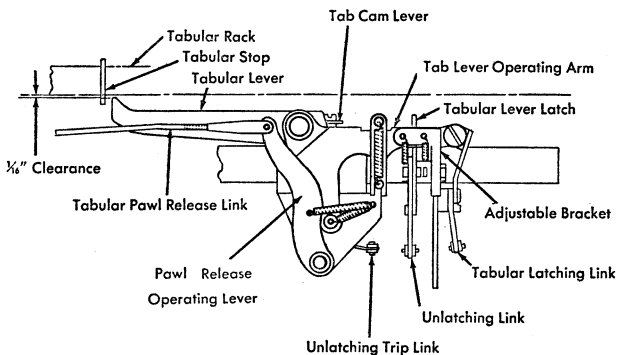

Figure 9. Tab Mechanism
When the tab cam is operated, its motion is transmitted by the tab operating link to a bell crank mounted on the escapement trip-bell-crank-and-bracket assembly. This bell crank actuates the tab-lever operating arm which, through two short springs mounted on the left end of the tab lever, raises the tab lever into the path of the tab stops (Figure 9). The tab-lever operating arm also actuates the pawl-release operating lever which, through the tabular pawl-release link, actuates the carriage-release-pawl lever. This action releases the carriage.
As the carriage moves and a tab stop comes to rest against the tab lever, this lever is forced to the left. This movement rotates the tab cam lever (Figure 9) which, through a shaft assembly, pushes the unlatching trip link. This link pivots the tab-unlatching trip lever and releases the tab-unlatching cam.
3. **TAB LEVER** height should be adjusted by moving the adjustable bracket up or down to obtain $\frac{1}{16}$ " clearance between the tip of the tab lever and the bottom of the tab rack with the tab lever in the latched position (Figure 9).
6. **UNLATCHING TRIP LINK** should be adjusted so that the tab unlatching cam is released just as the tab lever reaches its full travel to the left (Figure 9).
- b. Unhook the tabular pawl-release link (Figure 9).